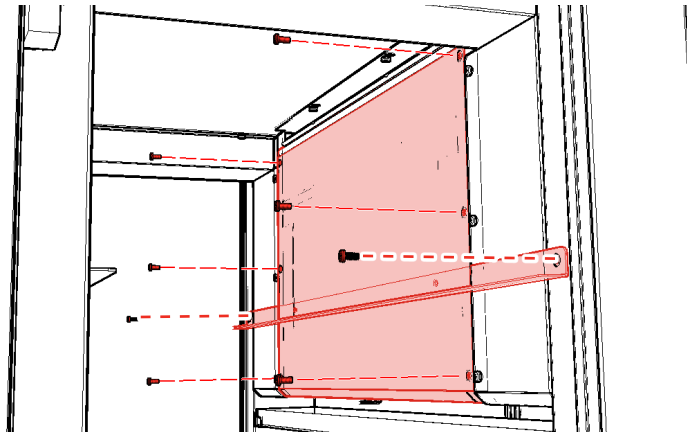

Fig. 17
1. Remove six (6) M5 × 12 screws on LEFT side of evaporator module. Lift module access panel away to remove (Fig. 17).